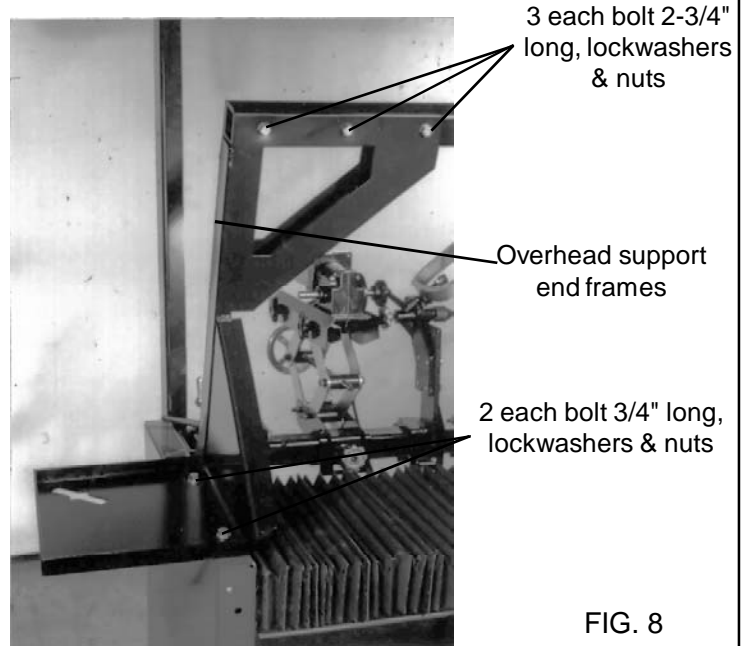

FIG. 8
Mount the left and right overhead support end frames to the main frame of unit with two (2) 3/8-16 x 1-3/4" long hex head bolts and two (2) 3/8-16 x 3/4" long hex head bolts, flatwashers and lockwashers on each end. The holes in the main frame have weld nuts on the interior of frame for threading the hex head bolts. See FIG. 8 & 9.